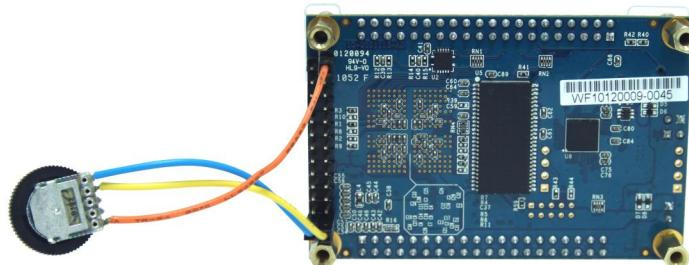

Figure 8-5 ADC Reading hardware setup
- Figure 8-5 shows the hardware setup for the ADC Reading demonstration.